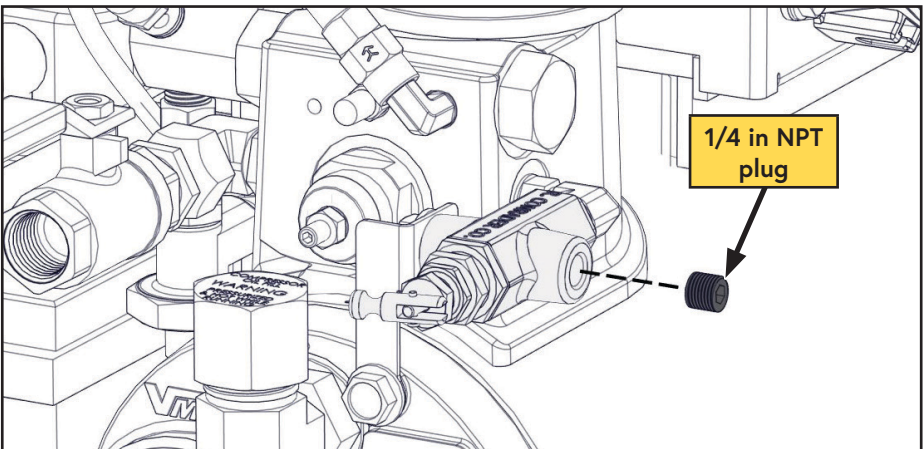

Figure 44 — Plug unloader valve
- Remove the push-to-connect fitting from the unloader valve and plug the valve using a 1/8 in NPT plug (Figure 44).
- Remove the 1/8 in NPT plug from the unloader valve and install the push-to-connect fitting (Figure 44).